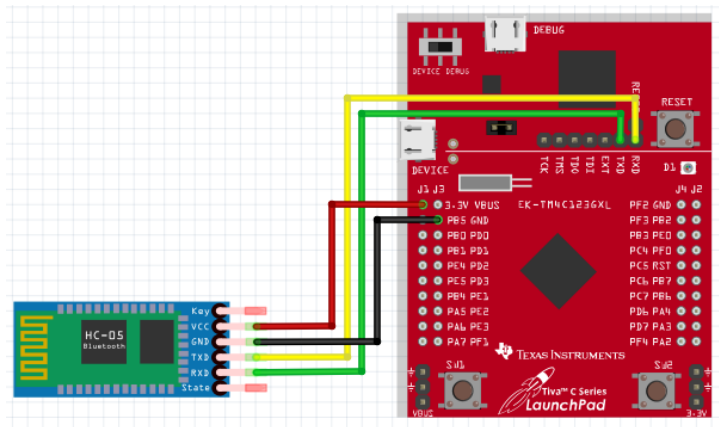

Figure 5: Circuit Connection between TivaC and HC-05
- Make the connections given in Fig. 5.